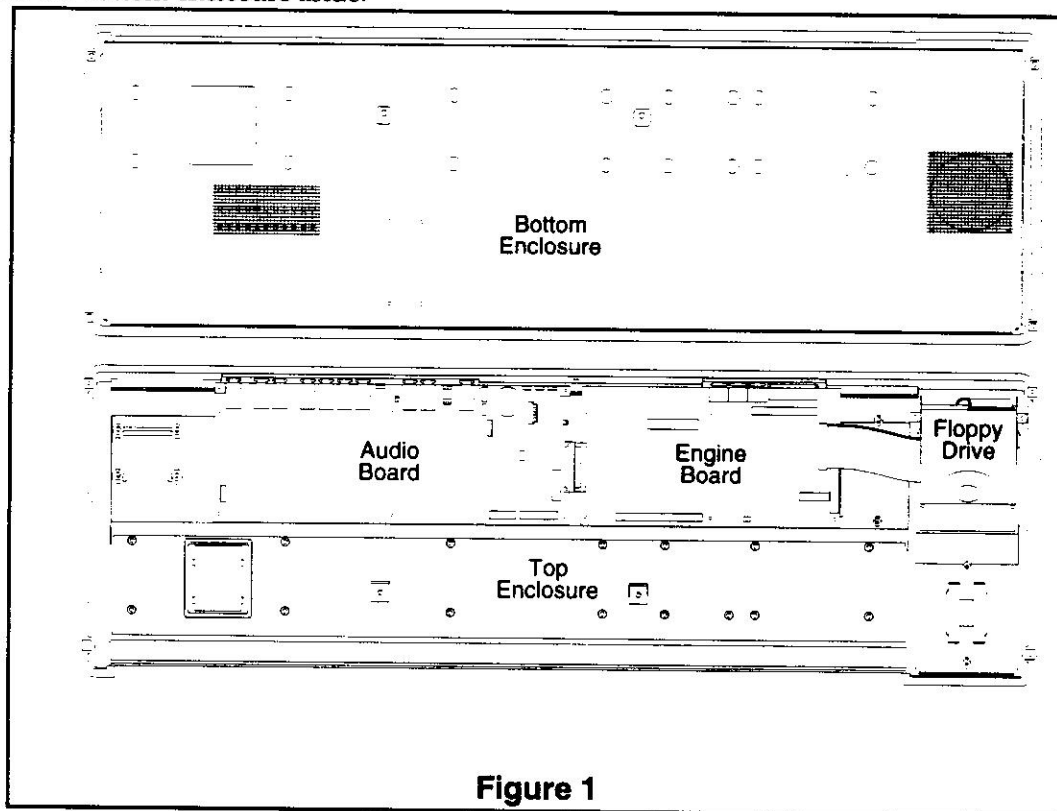

Figure 1
4. See Figure 1. Slowly lift the edge of the bottom enclosure that is closest to you, check to see if there are any wires connecting the bottom enclosure to the top. If the FK1 fan kit has already been installed, be sure to disconnect the fan/hard disk drive power cable from the unit's audio board before removing the bottom enclosure completely. **Be sure that there are no cables connected between the bottom and top enclosures.** If there are any ribbon cables to be disconnected, make note of the orientation of the red border on the ribbon cable, so you can reconnect them properly. Set the bottom enclosure aside.
1. See Figure 1. Locate the Engine PCB. It is the PC board with the MIDI and external SCSI connectors on it.